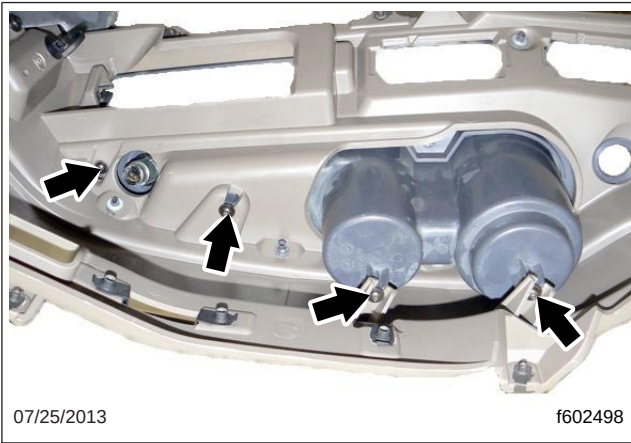

Fig. 2, Cup Holder Screws
7. From underneath the dash, remove the four screws that attach the dash cup holder to the lower fascia panel. See Fig. 2. Remove the cup folder.
18. Attach the cup holder to the fascia panel with four screws. See Fig. 2.